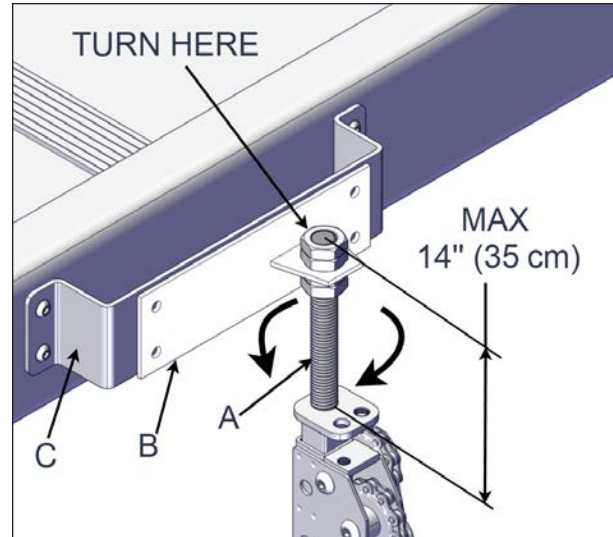

FIGURE 84: THREADED ROD ADJUSTMENT
14. The jack adapter located at the top of the jack can be adjusted by turning the threaded rod on the top of the jack. Adjust the height so that they match the cover mount bracket holes. Use the adjustable wrench 15/16" (24 mm) head. Repeat this step for all four jacks (Figure 84).
The threaded rod must not be unscrewed more than 14 inches (35 cm). (Measure the length from the top of the threaded rod nut to the top of the bottom nut see Figure 84.)